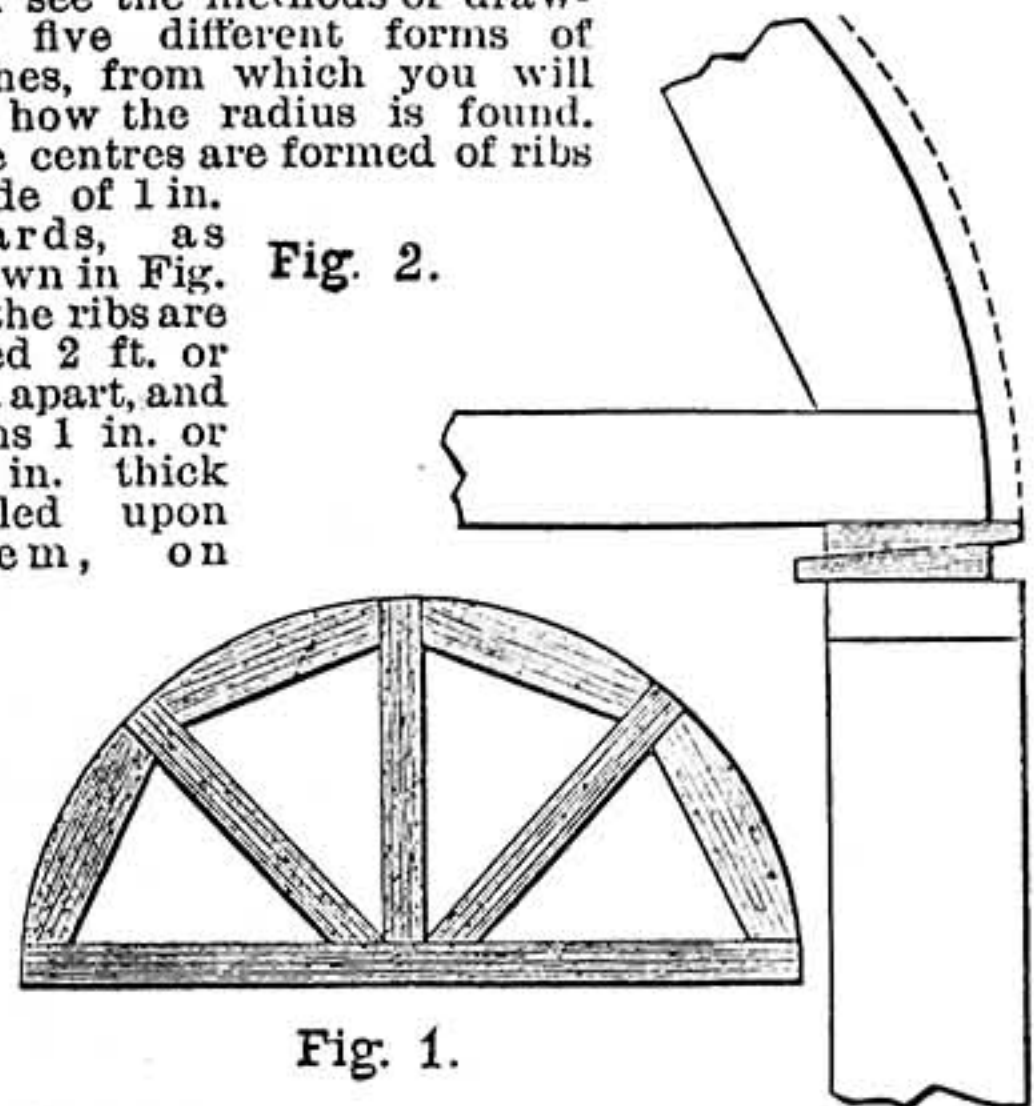

Fig. 1.
**Arches.**—G. S. W. (Walford Heath).—If you refer to page 364, No. 75, and page 428, No. 79, of WORK, you will see the methods of drawing five different forms of arches, from which you will see how the radius is found. The centres are formed of ribs made of 1 in. boards, as shown in Fig. 1; the ribs are fixed 2 ft. or 3 ft. apart, and laths 1 in. or 1 1/4 in. thick nailed upon them, on
Arches. Fig. 1.—Rib for Centre. Fig. 2.—Method of fixing Centre.